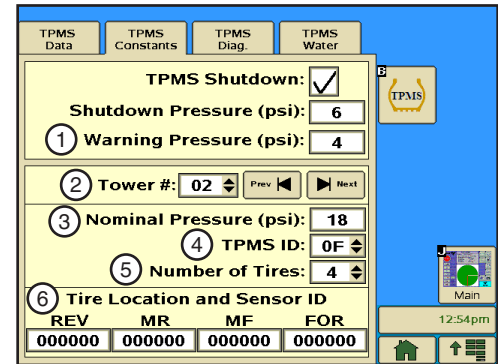

Figure 63-1
1. Select the **Warning Pressure** field, and enter the pressure value for the pressure drop warning. Refer to Figure 63-1.
1. Select the **Tower #** field, and choose the tower number to set up. Tower 1 is the tower closest to the pivot point. The range is 1-18. Refer to Figure 63-1.
1. Select the **Tire Location Sensor ID** field. Refer to Figure 63-1.
- Three tires - Enter the reverse tire sensor ID, the mid (M) tire sensor ID, and the forward tire sensor ID
- Four tires - Enter the reverse tire sensor ID, the mid-reverse (MR) tire sensor ID, the mid-forward (MF) tire sensor ID and the forward tire sensor ID.